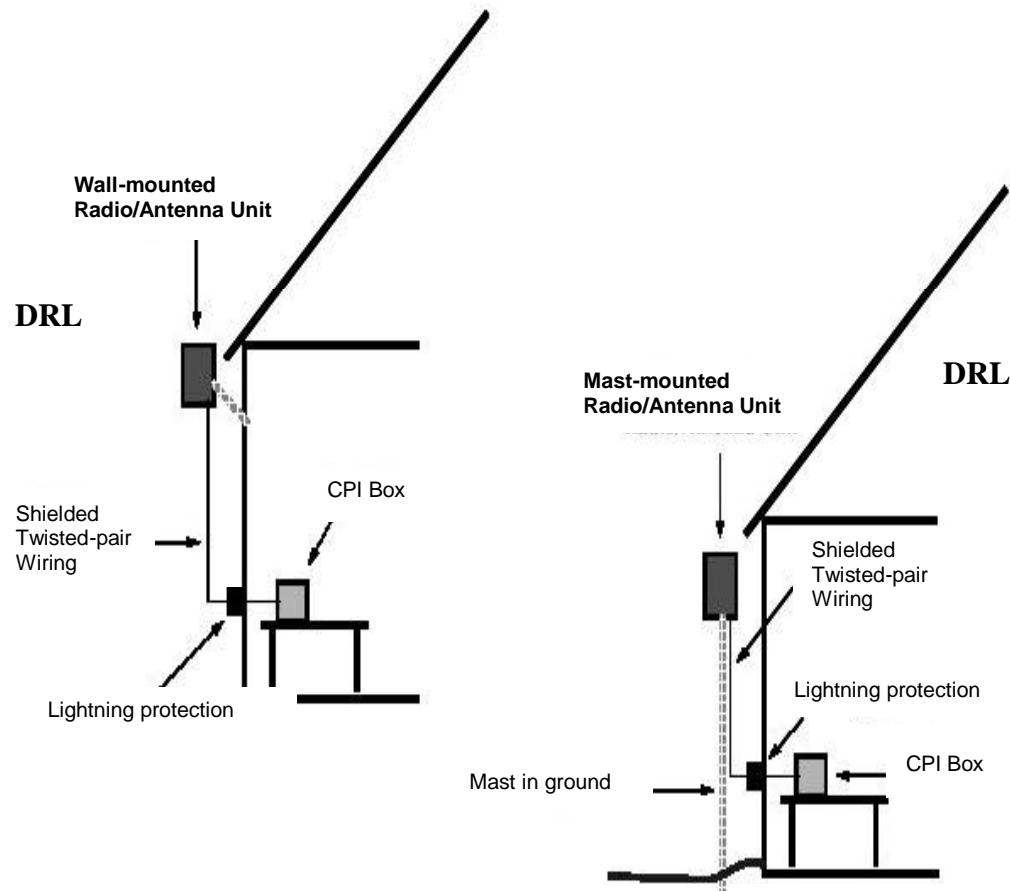

Figure 1 – Typical Installation
Survey the exterior of the Customer Premise site for a location that will provide line-of-sight (LOS) communication with the Central Office (CO) or the Radio Base Station Controller location, where the Radio Base Station Antenna is mounted. Figure 1 shows typical installations.
Refer to Figure 1 to view the typical installation.